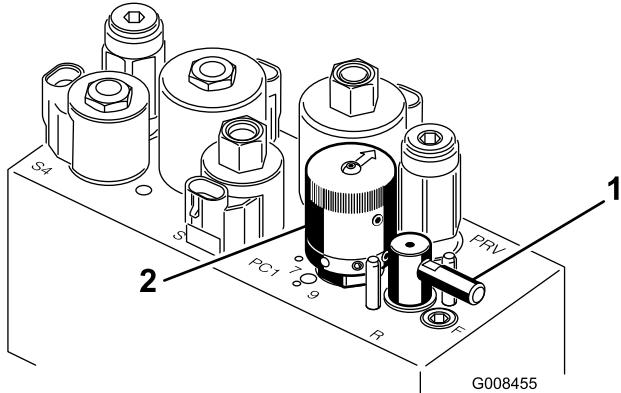

Figure 49
5. Rotate the Backlap Lever to the "R" position (Figure 49).
6. Rotate the Reel Speed Control to setting 1 (Figure 49).